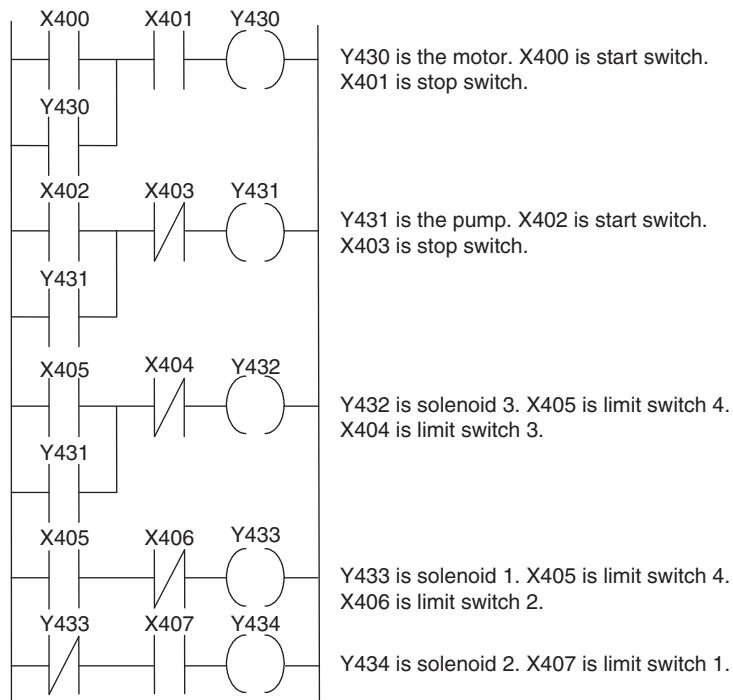

Figure A.10: Chapter 14, Problem 3.
3. See Figure A.10 for a basic answer.